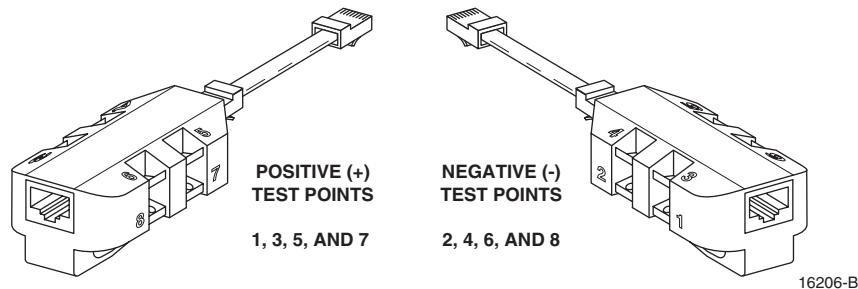

Figure 30. RJ-45 Circuit Access Tool Pin/Wire Designations
4. Using a DC voltmeter, verify that the DC voltage level is between 34 and 48 VDC between any set of positive and negative (+/-) terminals at the RJ-45 circuit access tool as shown in Figure 30. Due to source current limiting at the DHU or DEU, low voltage can mean excess wire resistance, low source voltage, or excess remote current.
6. Use the DC voltmeter to check for open pin connections by checking for voltage between the +/- pairs on the RJ-45 circuit access tool (see Figure 30).